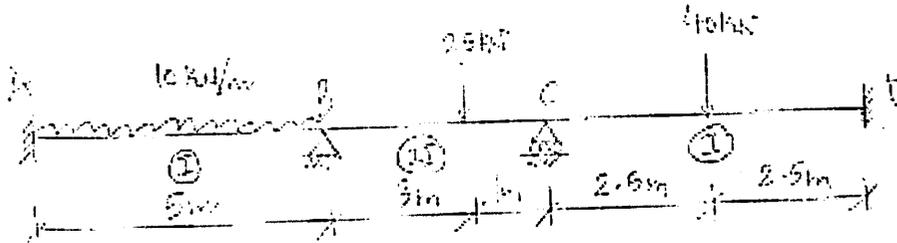

Fig Q5
- Q5 Analyse the beam shown in the figure Q5 using Kani's Rotation Contribution method and draw SFD and BMD. 20